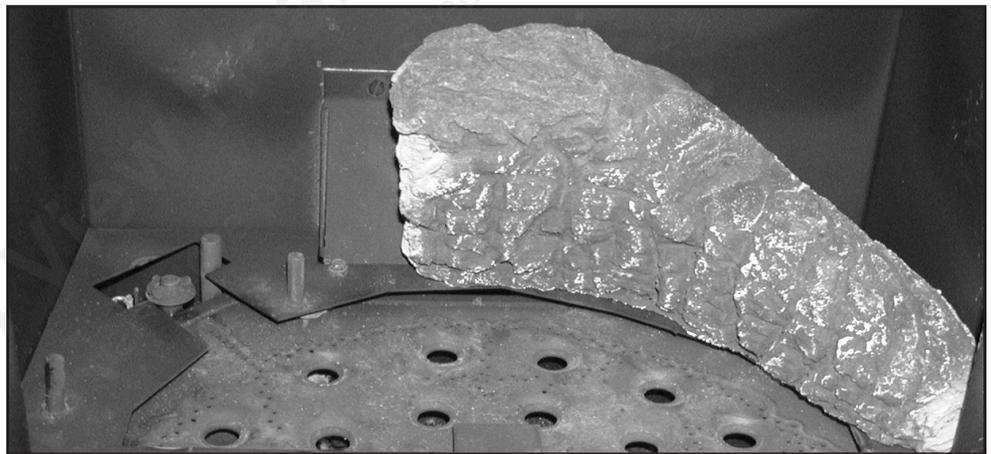

Figure 48. Log Placement Step 1.
The placement of the logs is not arbitrary. If they are positioned incorrectly, the flames can be “pinched” and will not burn correctly. The burner come with four (4) locator pins (see Figure 48), and the bottom logs have ledges which make alignment easier. Using the pictures provided, carefully set the logs in place.